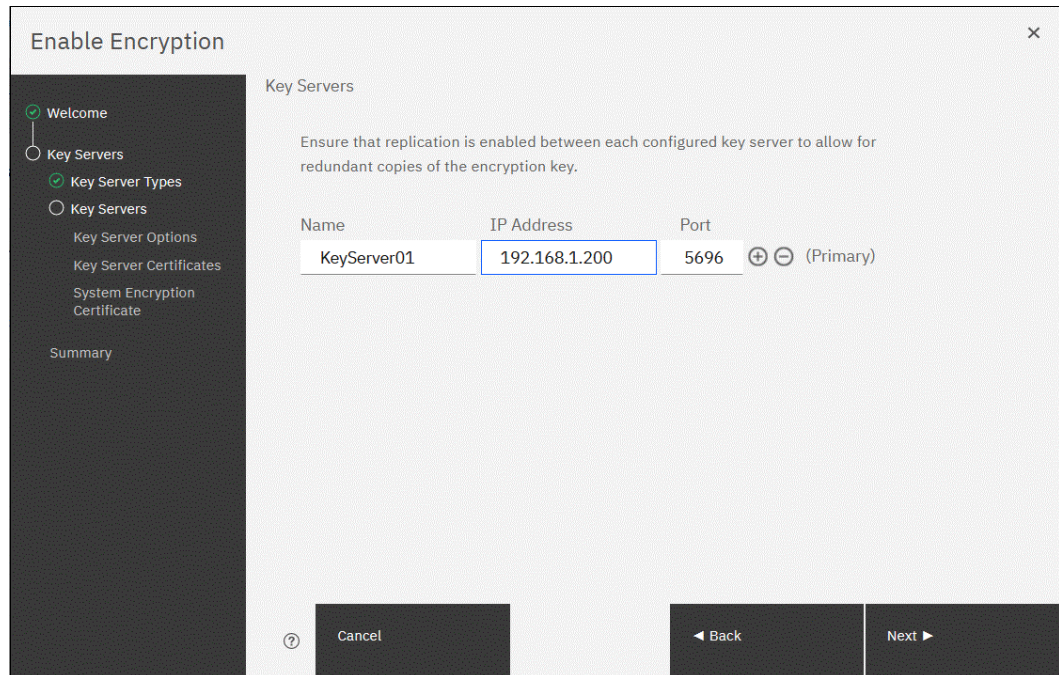

Figure 12-31 Configuring the primary IBM Security Key Lifecycle Manager server
4. The wizard opens the Key Servers tab, as shown in Figure 12-31 on page 762. Enter the name and **Internet Protocol (IP) address** of the key servers. The first key server that is specified must be the primary IBM Security Key Lifecycle Manager key server.
An example of a complete primary IBM Security Key Lifecycle Manager configuration is shown in Figure 12-31.